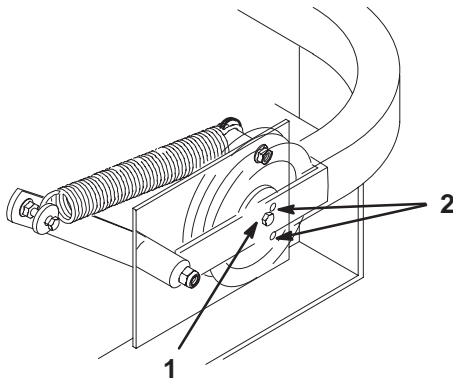

Figure 63
6. Check belt tension. The center bolt of spring loaded idler must be between the two alignment holes in left support plate (Fig 63).
Check position of center bolt in a High Height of Cut. The center bolt must be at or above the lower adjustment hole (Fig 63).
8. Check belt tension again. The center bolt of spring loaded idler must be between the two alignment holes in left support plate (Fig 63). Adjust, if necessary, and tighten all hardware securely.